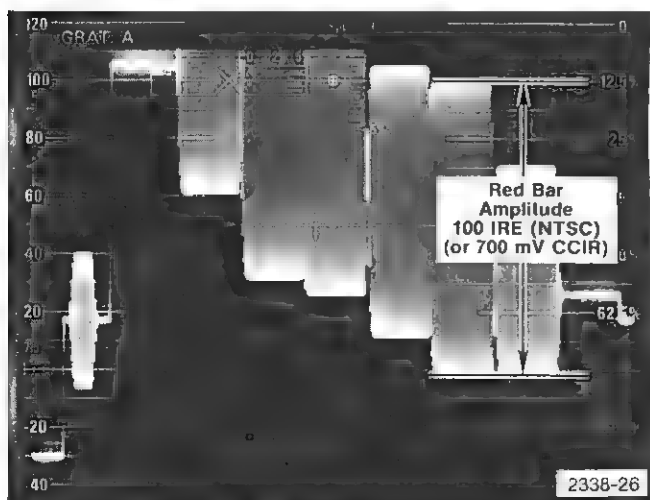

Fig. 5-4. Red Color Bar with amplitude increased to 100 IRE (NTSC).
b. Set the VOLTS FULL SCALE AND VOLTS FULL SCALE VAR so that the red bar is 100 IRE in amplitude. See Fig. 5-4.